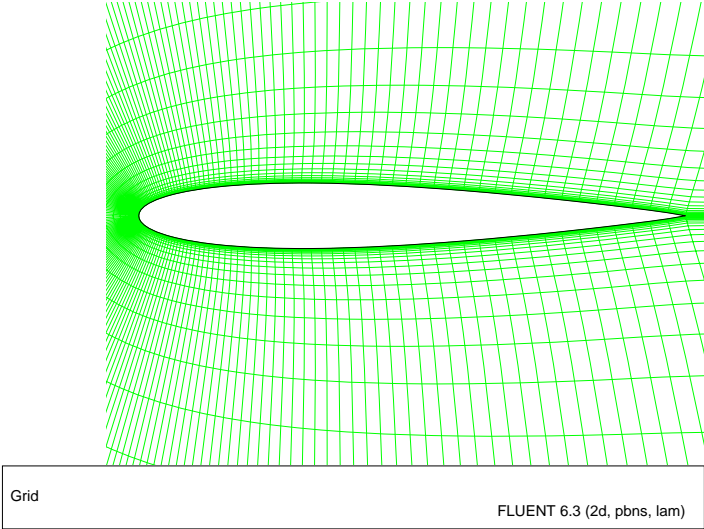

Figure 3.3: Magnified View of the Grid Around the Airfoil
- (c) Zoom in on the region around the airfoil (as shown in Figure 3.3), by using the middle mouse button in the graphics window.